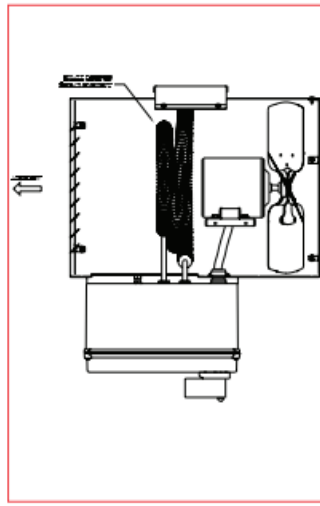

Figure 7
3. Install factory-supplied replacement elements such that the smallest loop of the spiral element is closest to the discharge end of the heater (see Figure 7).